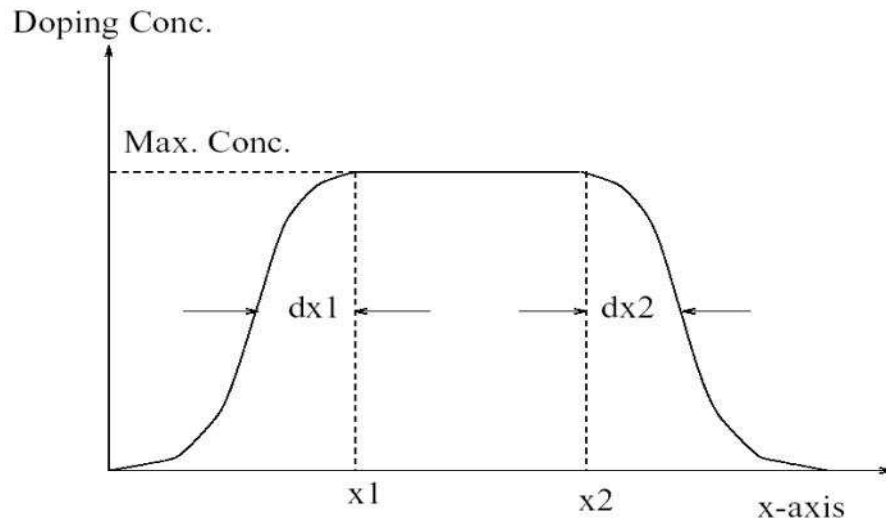

Figure 2.8: Schematics for the Gaussian doping profile in the x-direction.
The statement **doping** is a frequently used statement which describes the doping profile of impurities or impurity concentration distribution. If the **shape** takes a simple “gaussian” form, the profile in the x-direction is uniform from x1 to x2 and falls off on both sides with Gaussian tails of standard deviations of dx1 and dx2, respectively. (see Fig. 2.8)
- **x_prof** specifies the profile of the dopants in the x-direction. It takes four real numbers: (x1,x2,dx1,dx2) (in μm). The meaning of the parameters are defined in Fig. 2.8. This is used only when “gaussian” is chosen for **shape**.